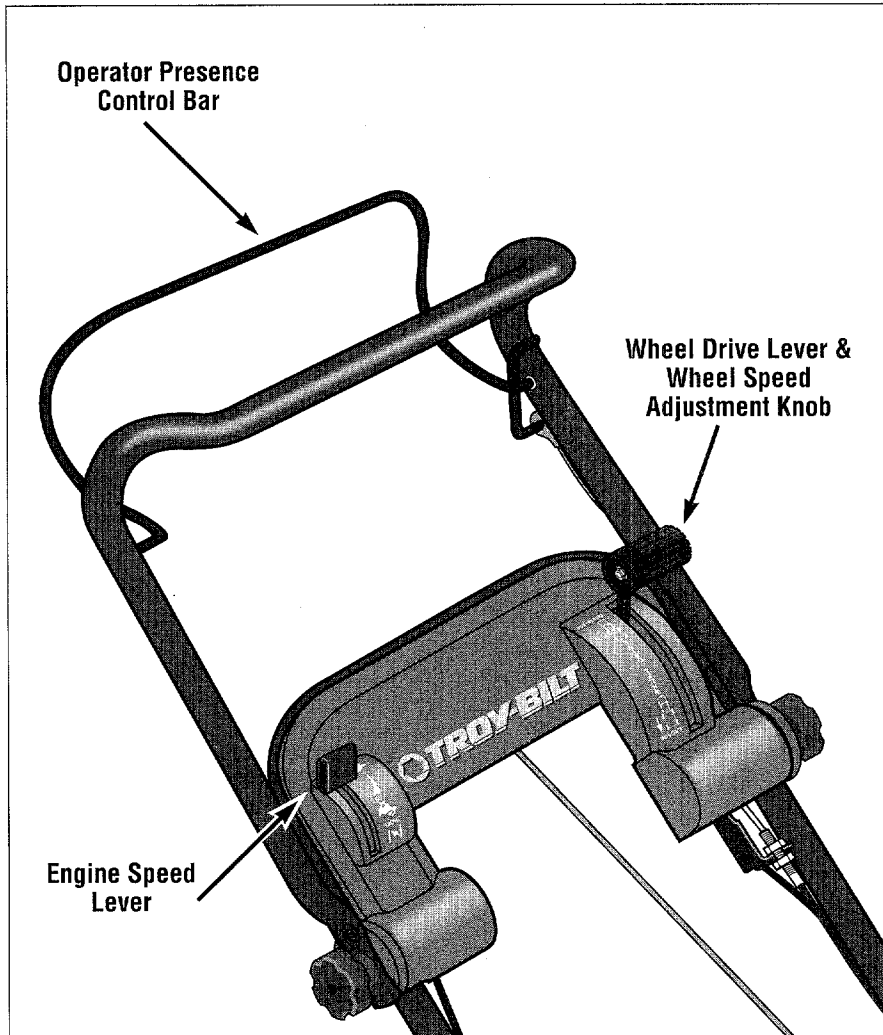

Figure 3-4: Variable Speed Model.
This control (see Figure 3-4) regulates the speed of the engine and the blade. For best mower performance, run the engine at **FAST** speed. Using this control is fully described in the Operation Section.
This model is equipped with an Operator Presence Control Bar (see Figure 3-4). When this control is released during mower operation, the mower engine, blade, and wheels stop. Using this control is fully described in the Operation Section.
The Wheel Drive Lever (shown in Figure 3-4), controls the forward speed of the mower and the engagement and disengagement of the wheel drive. The Wheel Speed Adjustment Knob has speed settings from **SLOW (1)** to **FAST (5)**. The use of this control is fully described in the Operation Section.